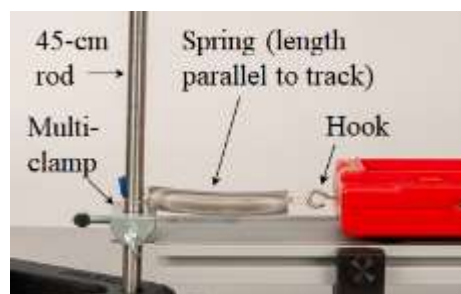

Figure 2: Attaching the Spring
7. Begin with Spring 1. Place one end loop of the spring over the 45-cm rod, and slide it down so that the end of the spring rests on top of the multi-clamp. See Figure 2. Attach the other end of the spring to the Smart Cart's hook.
8. Pull the Smart Cart back to stretch the spring a bit. As needed, raise or lower the multi-clamp on the 45-cm rod, so the spring length is approximately parallel to the track, and not angled up or down. See Figure 2.